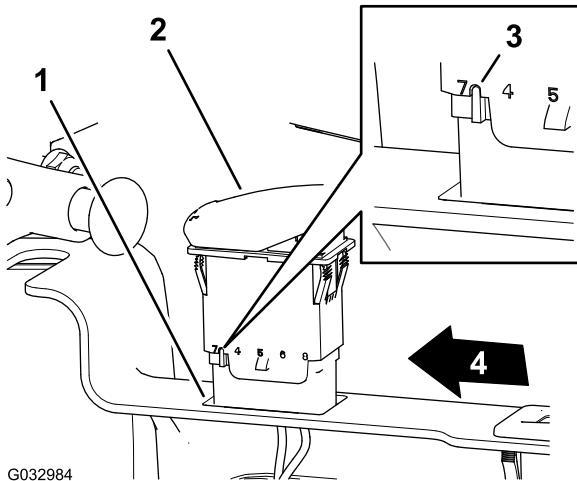

Figure 16
4. Align the switch so that the notch in the body of the switch is toward the left side of the control panel (Figure 16).
5. Insert the switch into the opening in the control panel until the switch snaps securely into the panel (Figure 16).